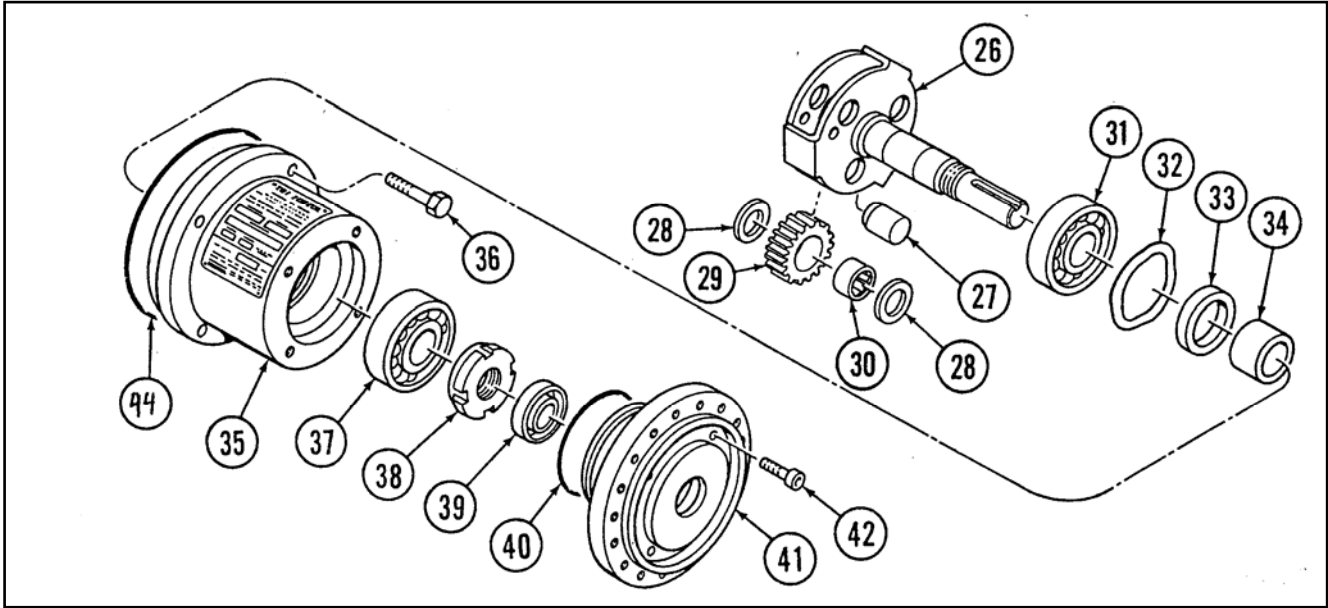

Figure 4. Gearbox Housing Assembly
The gearbox housing assembly, refer to figure 4, consist of a planet gear carrier and output shaft (26), three planet gears (29), needle bearings (30), spacers (28), and planet shafts (27).